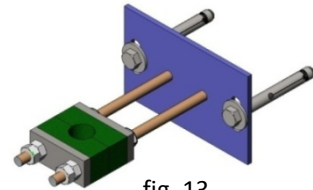

fig. 13
- We recommend a stem support-guide every 1.5 m (fig. 13).
- We recommend a pipe support-guide every 1.5 m (fig. 13).